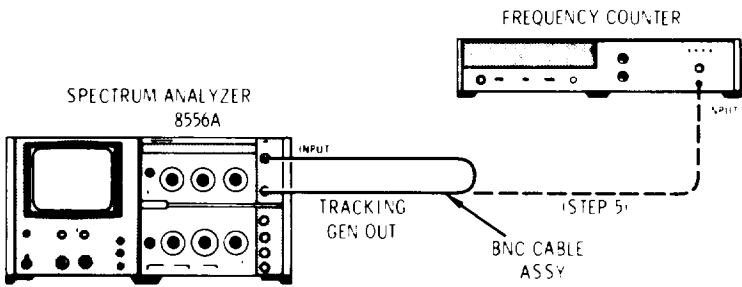

Figure 4-2. Marker Accuracy Test Setup
- 1. Connect equipment as shown in Figure 4-2, connecting TRACKING GEN OUT to analyzer INPUT with BNC cable.